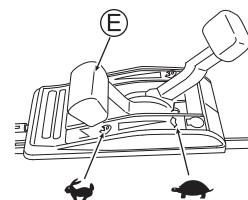

Fig. 12
- Confirm that there is no person behind you when pulling the starter knob (V).
- Securely hold the starter knob (V) when you pull it.
- Return the starter knob (V) slowly.
5. Warm up the machine before use. After the engine has warmed up, start mowing by setting the throttle lever (E) to "↖". (See Fig. 12)